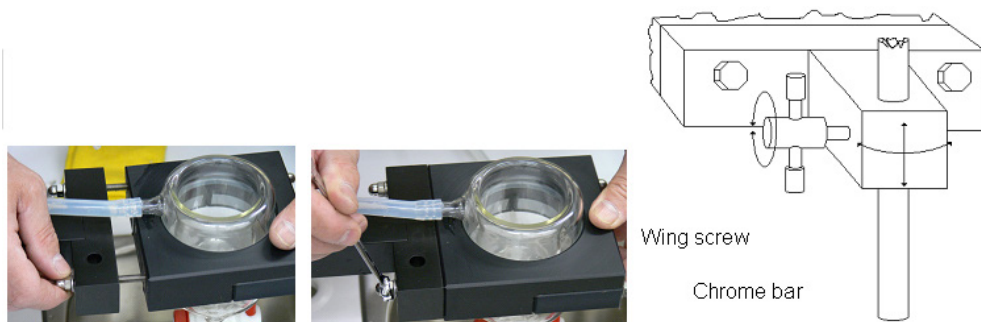

Fig. 19–Mount the heart chamber.
13. Mount the heart chamber and its support to the bracket using the cap screws provided (Fig. 19). Use the upper sets of holes on the bracket and the chamber support.